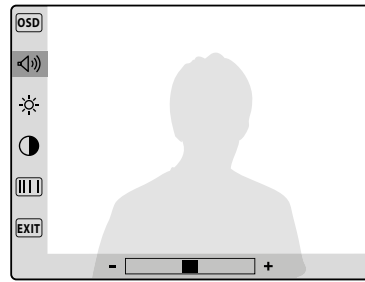

Fig. 3
- To enter into programming menu press the  button Fig.3.
- The speech volume (8 levels Fig.3);